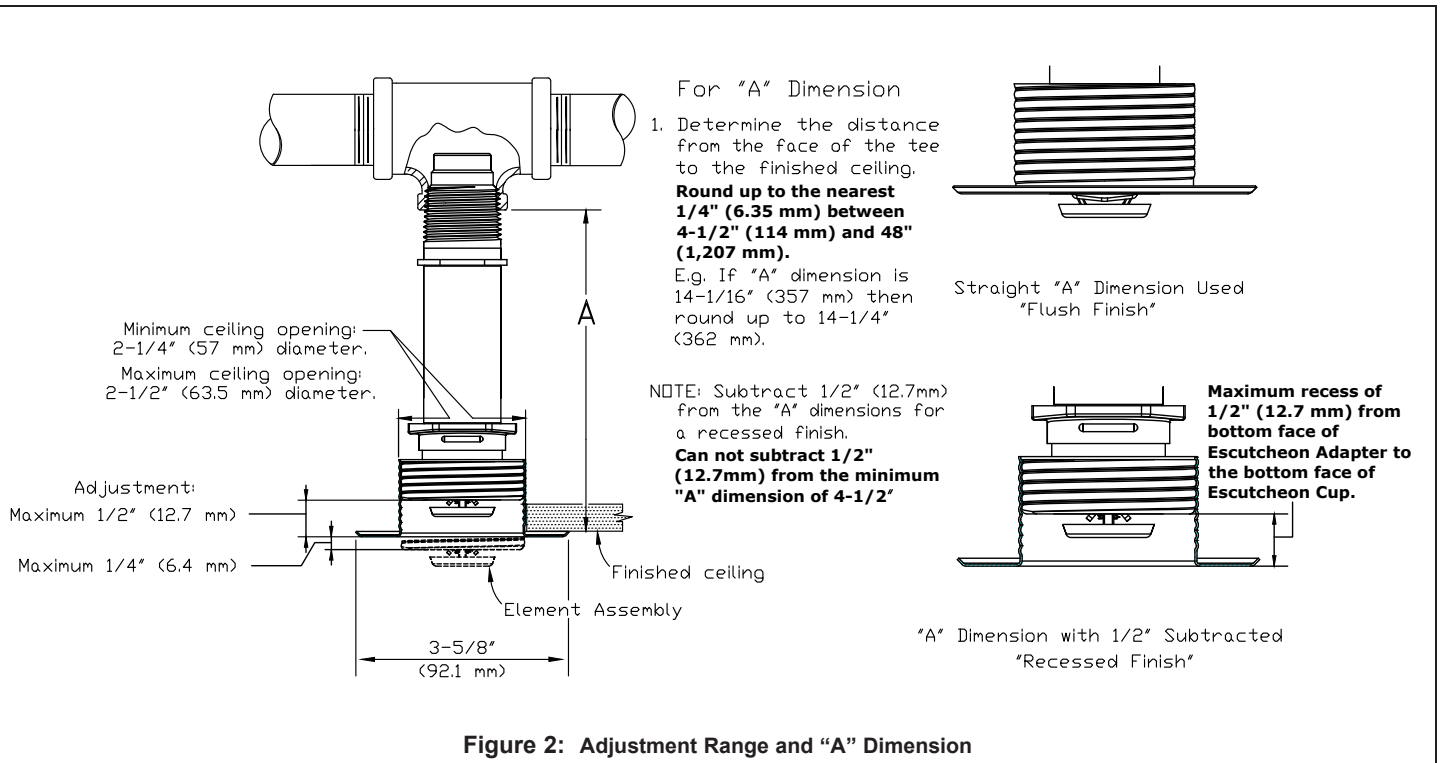

Figure 2: Adjustment Range and "A" Dimension
Order Recessed Flush Dry Sprinkler VK482 by first adding the appropriate suffix for the sprinkler and escutcheon finish, the appropriate suffix for the temperature rating, and then the suffix for the length ("A" dimension) to sprinkler base part number. Order in a specific length noted as the "A" dimension (see Figure 2). The "A" dimension is the distance from the face of the fitting (tee) to the desired finished surface of the ceiling.
**The minimum required barrel length is not the same as the "A" dimension. Refer to Figure 2 for the "A" dimension. NOTE: Exposed minimum barrel lengths are inclusive up to 30 mph wind velocities.
Measure from Escutcheon Adapter/Sprinkler Base to the bottom face of Escutcheon Cup for recess measurement. Also see figure 2.